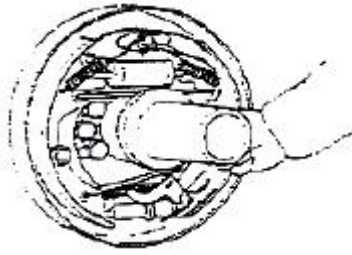
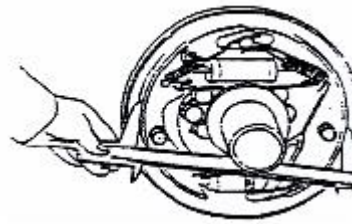

Figure 11
Figure 12
(8) Install brake shoe guide to support pin and then install brake shoe return spring, Install the main hoof first, and then the auxiliary hoof, As shown in figure 11
(9) Install adjuster, adjuster spring, ejector pin, ejector return spring ,pls pay attention to following point
(10) Connect the brake tubing to the sub pump
(11) Measure the inner diameter of the brake drum ,the out diameter of the brake shoe ,and adjust the adjuster to make sure the difference between the inner diameter of brake drum and the outer diameter of friction plate of the brake shoe is 0.0in -0.02in,as figure 12 shows .